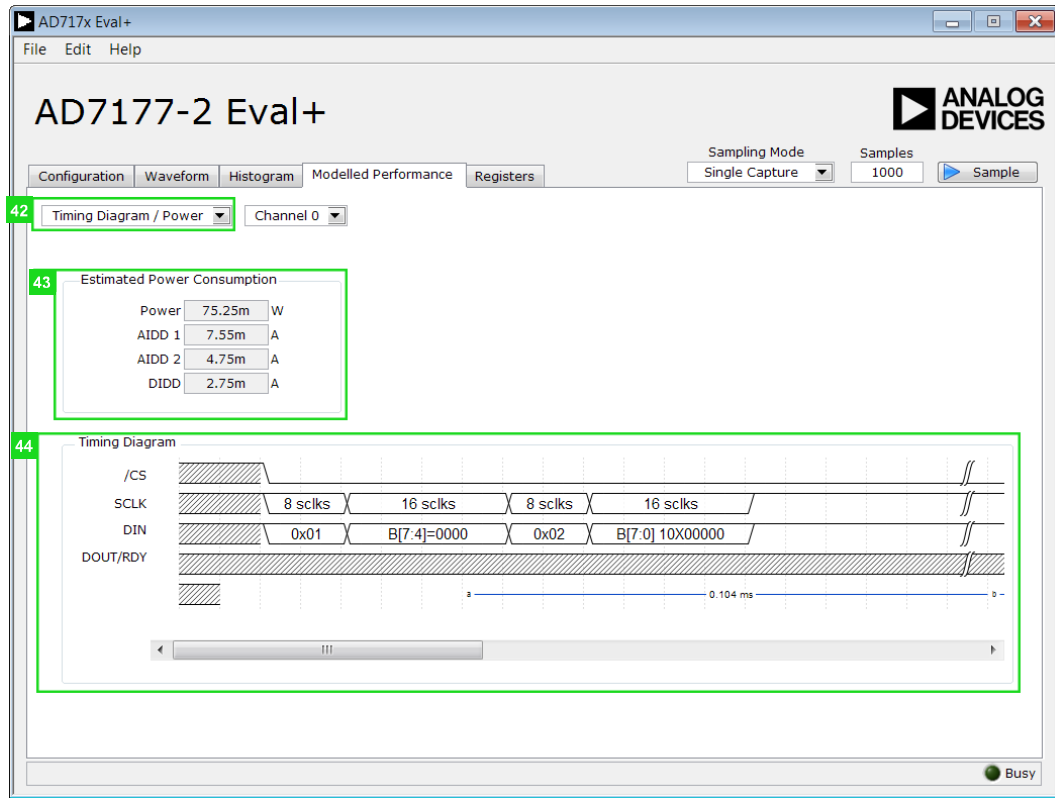

Figure 22. Timing Diagram/Power of the AD717x Eval+ Software
This dropdown list (42) allows the user to switch between the three sections of the **Modelled Performance** tab. Figure 22 shows the tab when **Timing Diagram/Power** is selected from the dropdown list.